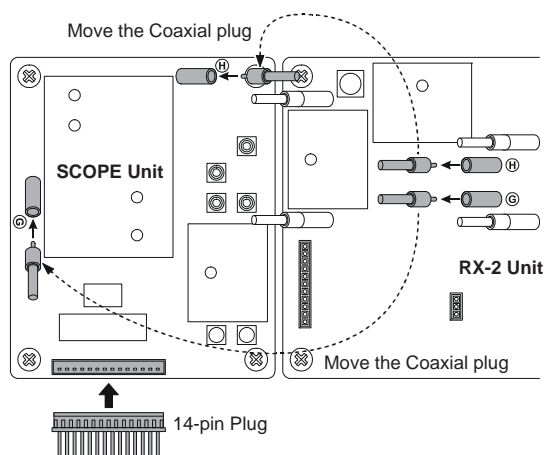

FIGURE 4
6. Locate the Coaxial plugs (labeled Ⓞ and ⊕) installed in jacks (J4508 and J4507) on the RX-2 Unit. Unplug the Coaxial plug (Ⓞ) from the RX-2 Unit and plug it into J7003 on the SCOPE Unit. Unplug the Coaxial plug (⊕) from the RX-2 Unit and plug it into J7001 on the SCOPE Unit (Figure 4).